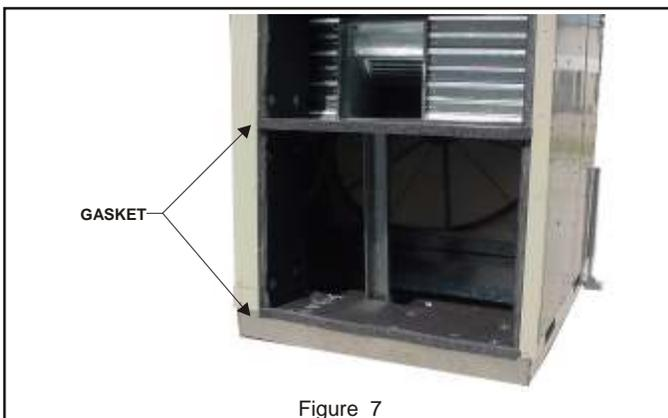

Figure 7
- Apply  $\frac{3}{4}$ " x  $1\frac{1}{4}$ " gasket to top and bottom decks of ERS as shown in the figure. **See Figure 7.**